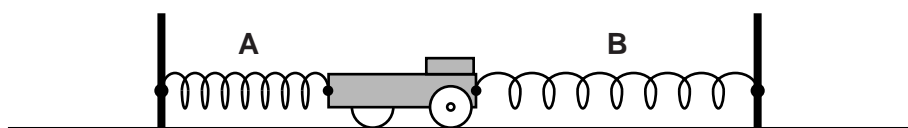

Fig. 3.2
- (ii) The mass of the trolley is 0.80 kg. The force constant of each spring is 14 N m^{-1} . A student pulls the trolley to the left as shown in Fig. 3.2.